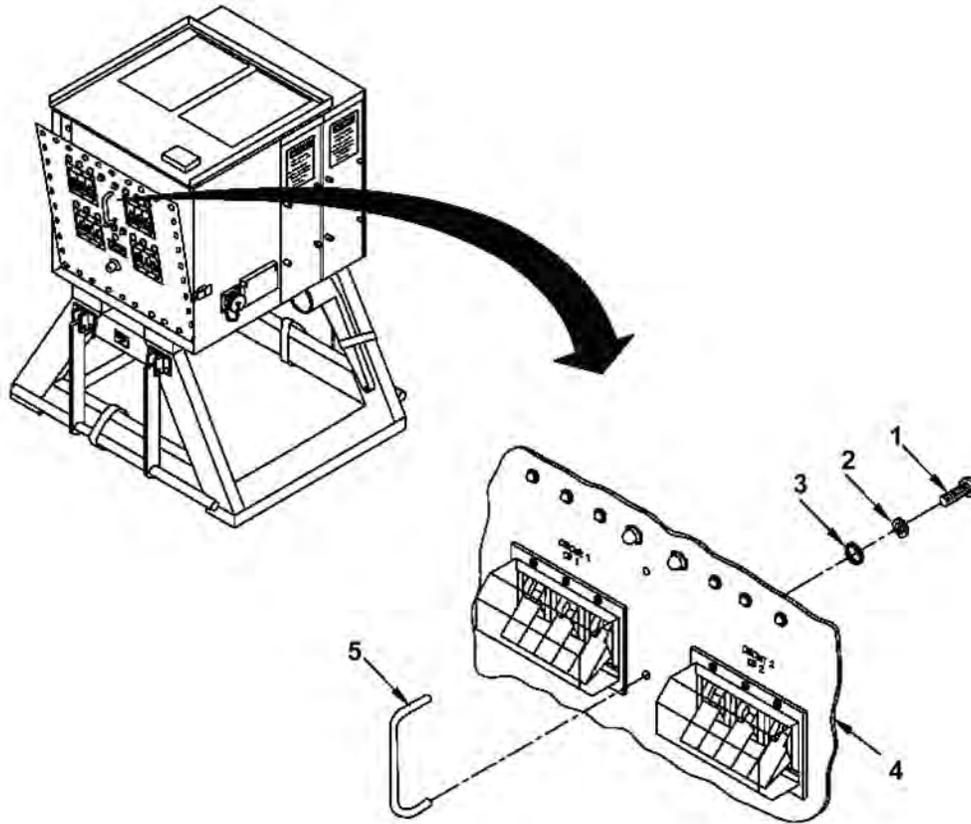

Figure 1. Handle, Circuit Breaker Panel.
2. On rear of circuit breaker panel (Figure 1, Item 4), remove and retain two screws (Figure 1, Item 1), two flat washers (Figure 1, Item 3) and two lock washers (Figure 1, Item 2), securing handle (Figure 1, Item 5) to circuit breaker panel (Figure 1, Item 4). Remove handle (Figure 1, Item 5).
3. Position handle (Figure 1, Item 5) on circuit breaker panel (Figure 1, Item 4) and secure it by installing two flat washers (Figure 1, Item 3), two lock washers (Figure 1, Item 2) and two screws (Figure 1, Item 1).
4. Locate rear of terminal post (Figure 1, Item 3) to be removed. Tag any wire(s) connected to terminal post.
5. Perform procedures in WP 0027 to secure circuit breaker panel (Figure 1, Item 4).